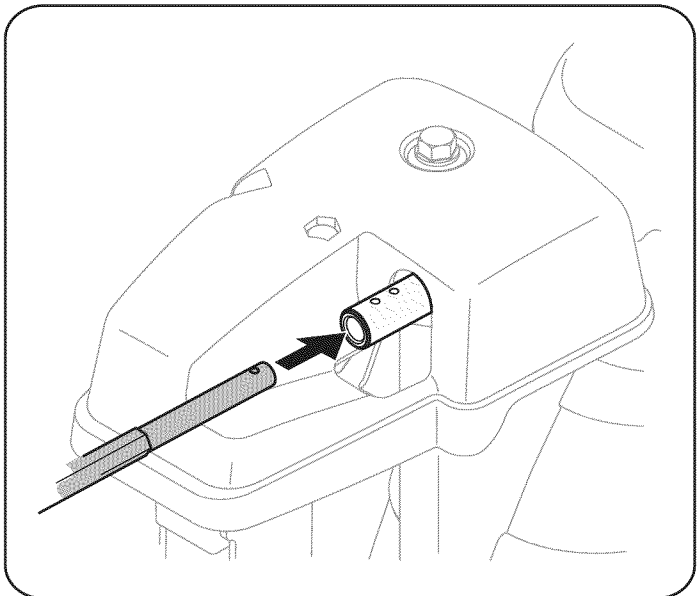

Figure 3
3. Insert round end of chute rod into input of chute control head. Push rod as far into the chute control head as possible, keeping the holes in the chute rod pointing upward. See Figure 3.